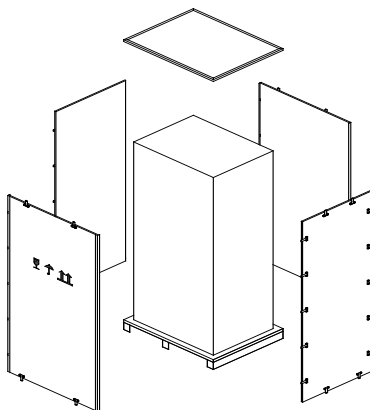

Fig. 14. Disassemble the case
3. Open the top plate of the steel-edged wooden case with slotted awl and pier, followed by side boards (see Fig. 14).